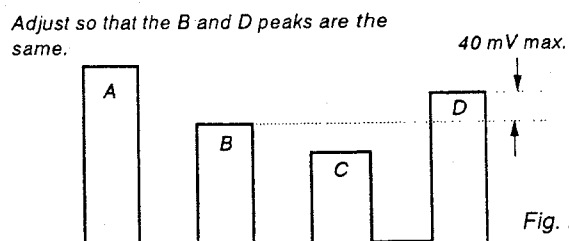

Fig. 23
- 4) Adjust **CHROMA PAL NOR** so that the tops of the waveform line up. (Fig. 23)
- 2) Adjust **CHROMA PAL ACC OFF** in the same manner as 15.-4). (Fig. 23)